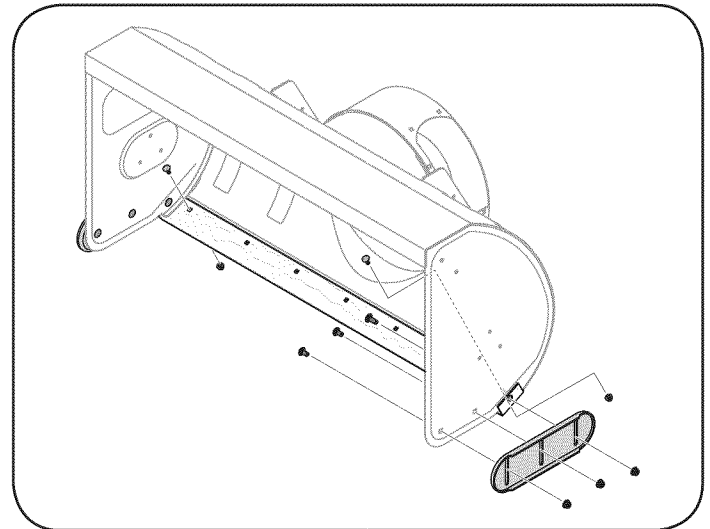

Figure 22
1. Remove the six carriage bolts and hex nuts that secure the two skid shoes to the sides of the auger housing. Refer to Figure 22.